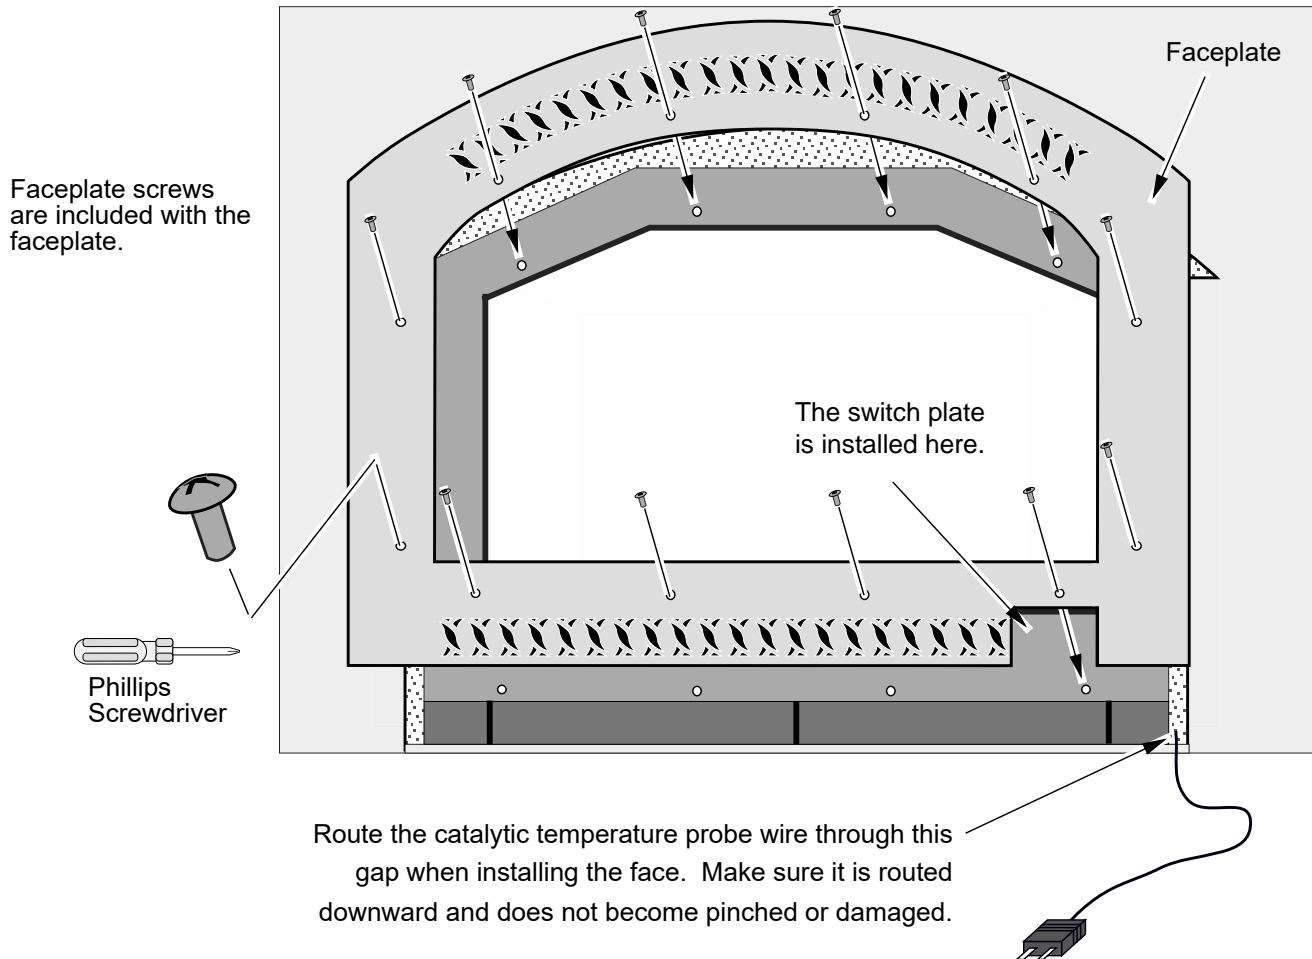

Figure 33
- The faceplate is packaged with faceplate attachment screws. Use a phillips screwdriver to attach the faceplate (see Figure 33).